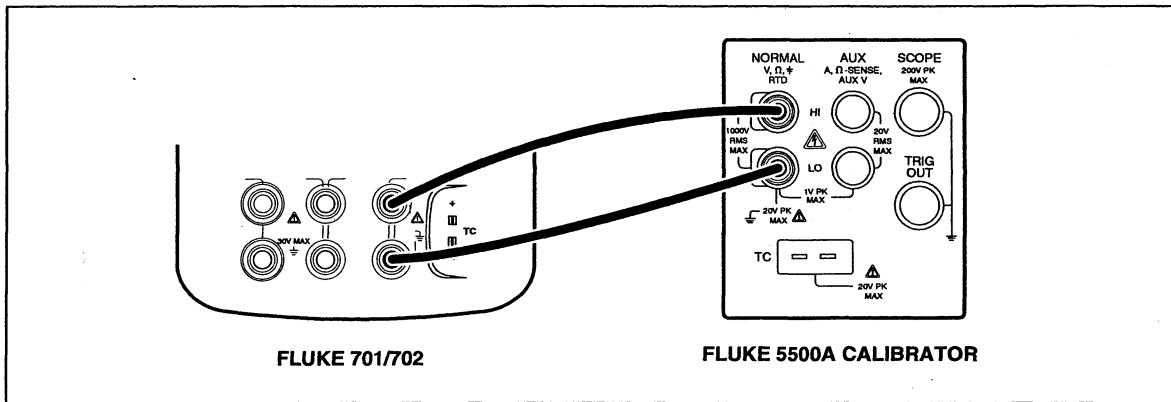

Figure 3-4. Frequency Measurement Verification Connections
1. Connect the UUT to the 5500A as shown in Figure 3-4. If you are using a calibrator other than a 5500A, connect a PM6666 Frequency Counter to the output through a dual banana plug to BNC adapter in order to adjust the frequency to the required accuracy. If you are using a 5700A Calibrator, you can connect the PM6666 to the Phase Out BNC connector on the 5700A rear panel.